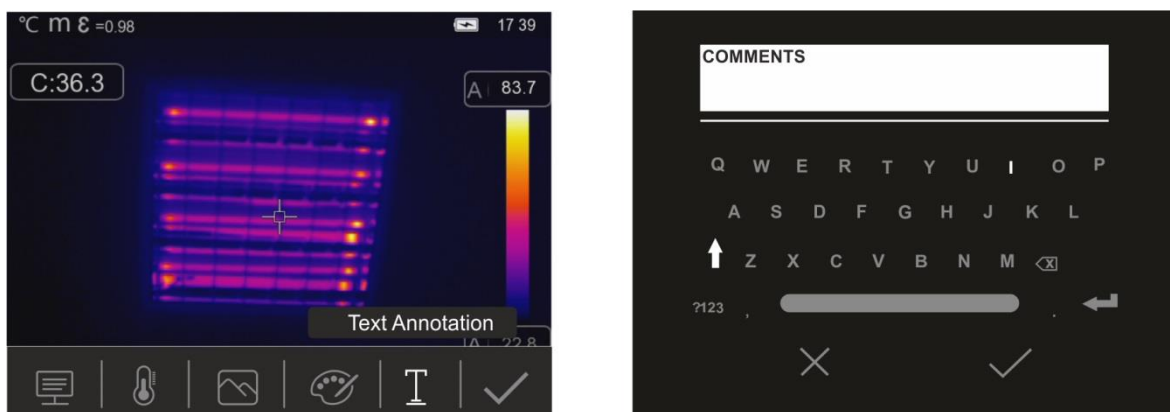

Fig. 47: Adding a text annotation to the image
4. Touch the icon “” to add a text annotation to the image. The screen in Fig. 47 – right side appears on the display.